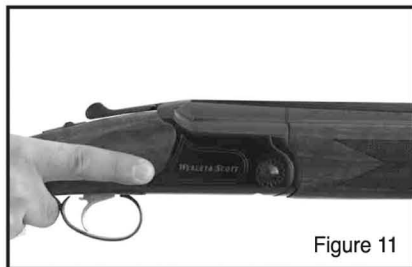

Figure 11
- Verify that the barrel is clear and free of obstructions. Always keep your fingers away from the trigger when closing the action (Figure 11).
- Close the action (Figure 11).
- Always keep your fingers away from the trigger when closing the action (Figure 11).